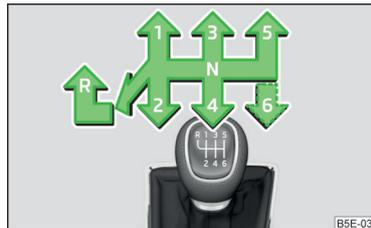

Fig. 232
The gearshift pattern for the individual gear positions is shown on the gear lever » Fig. 232.
- › Push the shift lever downwards fully to the left and then forward into **R**» Fig. 232.